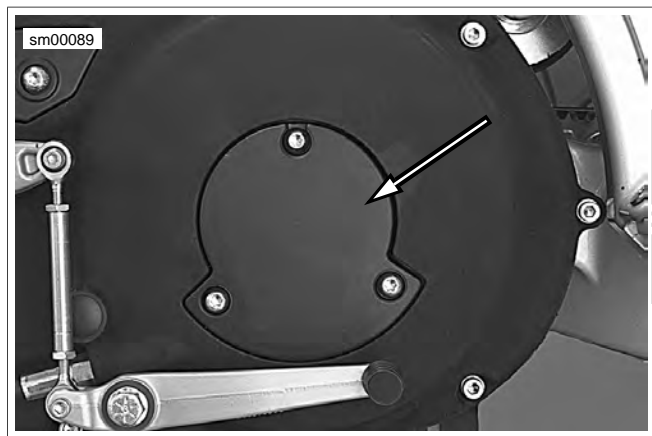

Figure 1-25. Clutch Inspection Cover (Typical)
9. See Figure 1-25. Install clutch inspection cover tightening three fasteners and washers to 84-108 in-lbs (10-12 Nm).
3. See Figure 1-25. Remove three fasteners and washers from clutch inspection cover. Remove clutch inspection cover and gasket from primary cover.
8. See Figure 1-25. Install clutch inspection cover and **new** gasket using three fasteners and washers and tighten to 84-108 **in-lbs** (10-12 Nm).